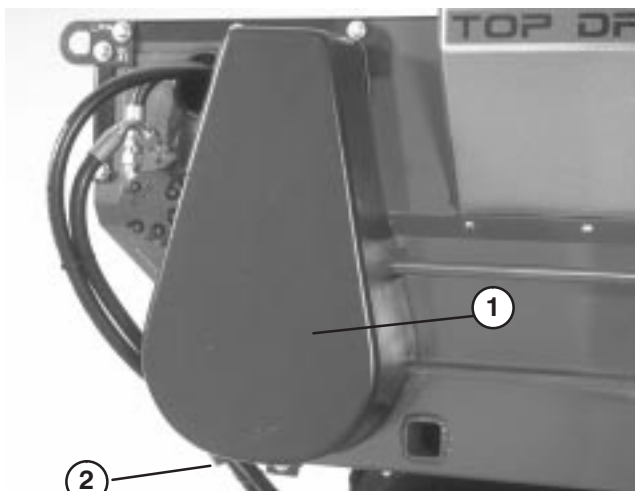

Figure 2
1. Remove chain cover, spacer and finger guard (Fig. 2). Finger guard and spacer used only Model 44225.